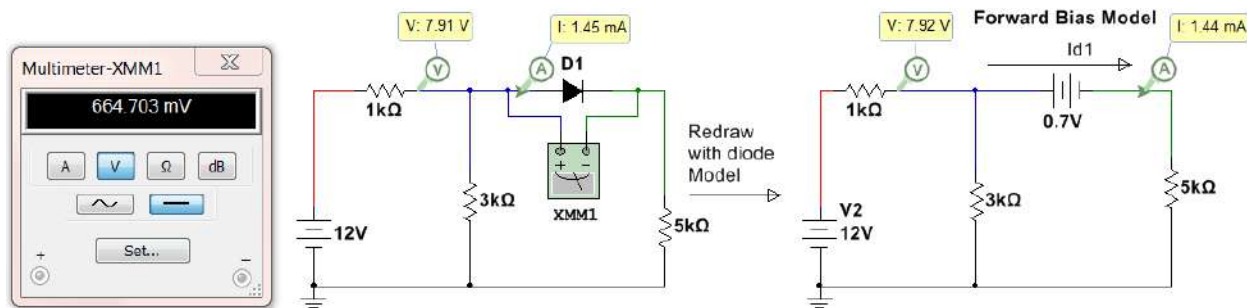

Figure 6.6: Circuit for Example 6.3
Step 2) The circuit on the right side of Figure 6.6 shows the forward bias model replacing the diode. **The node where the anode was connected is connected to the + side of the battery.** 0.7 V is used for the battery voltage because the problem stated it is a silicone diode. Next, calculate the current, I_{D1} . The mesh matrix method used in the DC Circuits eBook will be used.
- Solving this matrix yields $I_2 = I_{D1} = \underline{1.44 \text{ mA}}$ (This is verified in Multisim in the right circuit of Figure 6.6)
- Note:** The actual diode voltage is shown in Multimeter XMM1 to be 664.703 mV. The 0.7 V diode drop assumption yielded a slightly different result than the actual values (shown in the left circuit in Figure 6.6).